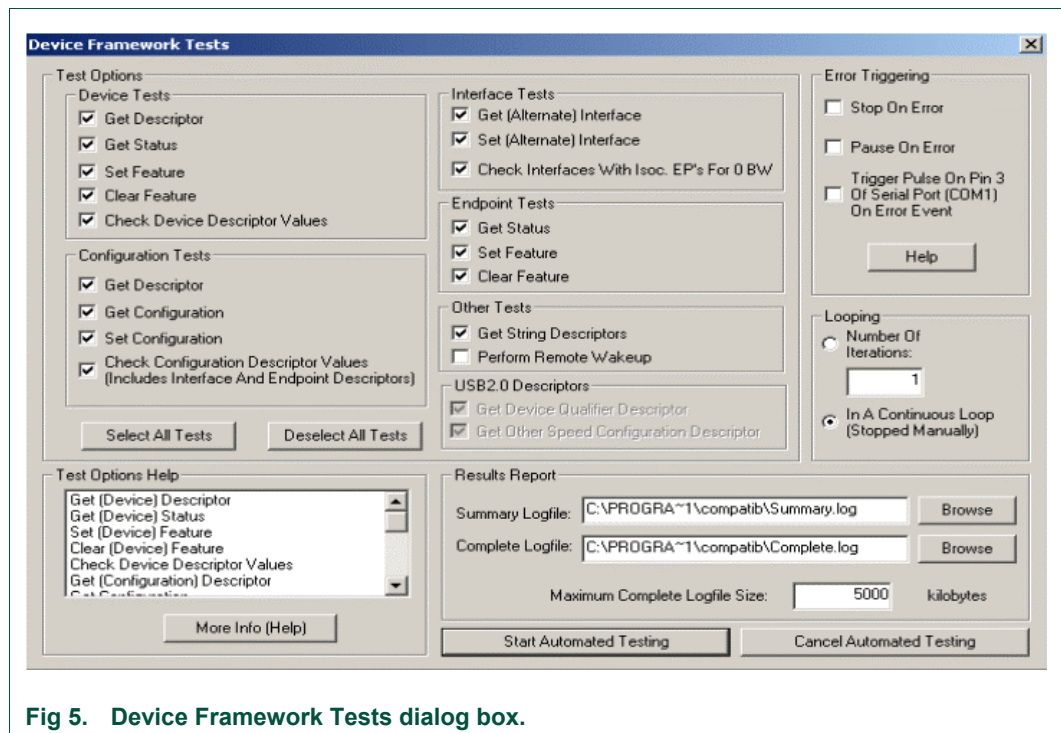

Fig 5. Device Framework Tests dialog box.
4. In dialog box *Device Framework Tests*, as seen in Fig 5, deselect **Perform Remote Wakeup** and select **In A Continuous Loop**.